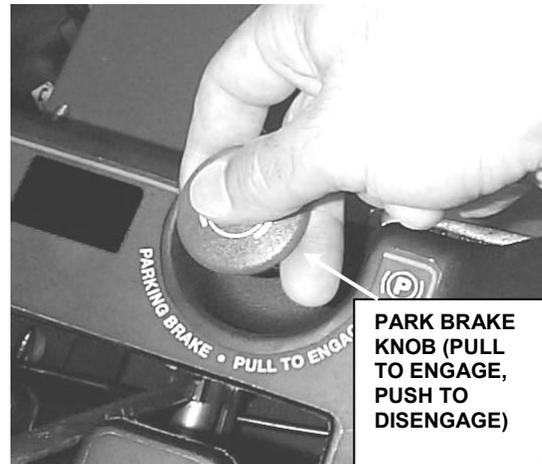

FIGURE 2.3
- 1) Pull park brake knob up and hold. See Figure 2.3.
- 1) Depress brake pedal firmly while pushing park brake knob down. See Figure 2.3.